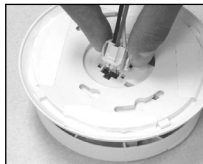

### FIGURE 6
2. After selecting the proper smoke alarm location as described in Section 1 and wiring the AC Quick Connector as described in the WIRING INSTRUCTIONS, attach the trim ring to the electrical box (see Figure 6). To ensure aesthetic alignment of the alarm with the hallway or wall, the "A" line on the mounting bracket must be parallel with the hallway when ceiling mounted, or horizontal